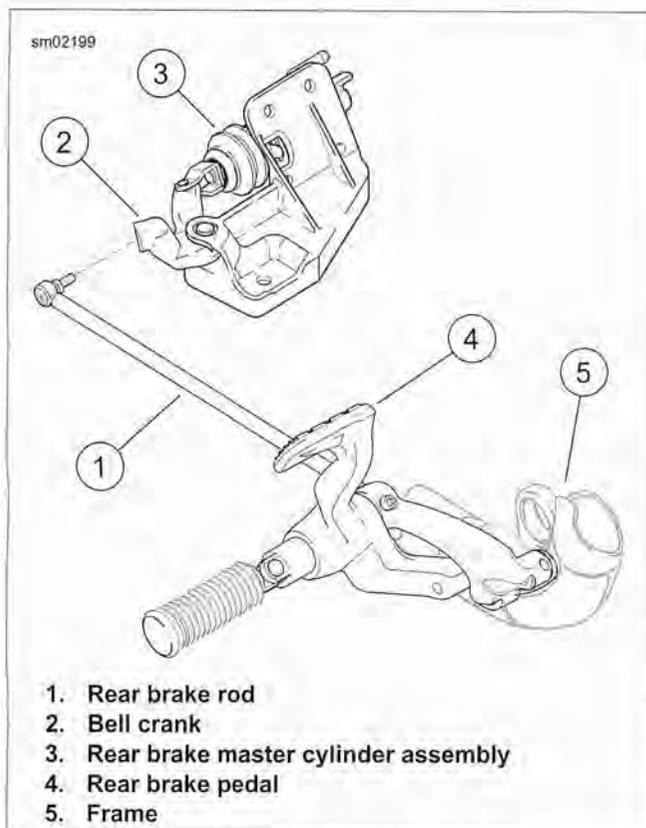

Figure 4-67. Rear Brake Linkage
- See Figure 4-67. Remove rear brake rod (1) at bell crank (2).
- See Figure 4-67. Apply two drops of LOCTITE 243 (blue) to rear brake rod ball stud screw. Attach rear brake rod (1) to bell crank (2). Tighten screw to 120-180 **in-lbs** (13.6-20.4 Nm).